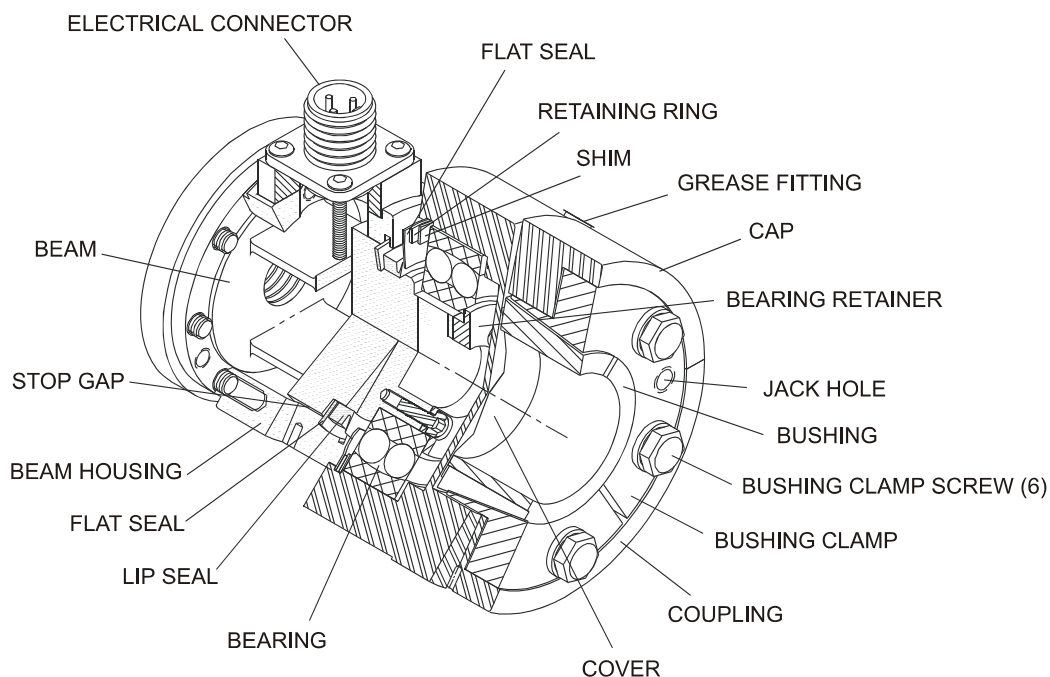

Figure 1 - LIVE SHAFT VERSION CUT-AWAY VIEW
1.2 CONSTRUCTION AND MECHANICAL OPERATION (see Figures 1 & 2)